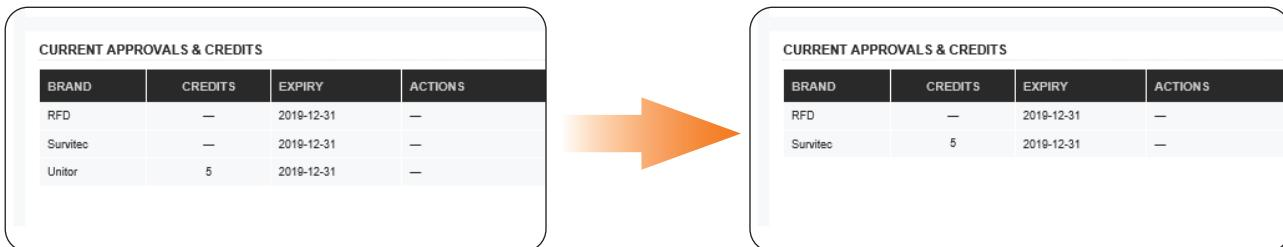

FIGURE 5
- (1) The Unitor credits that remain will be automatically transferred to Survitec credits. Refer to **Figure 5**.